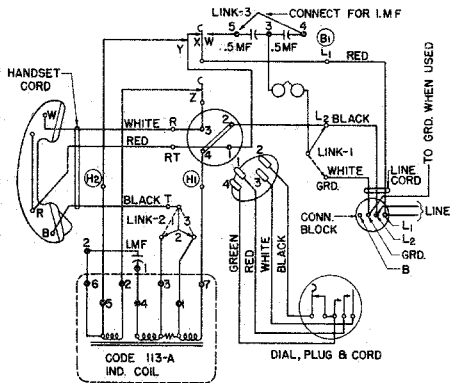

FIG. 2
- TO CHANGE FROM "METALLIC" TO "DIVIDED RINGERS" WHEN A GROUND LEAD IS CONNECTED TO $\frac{1}{2}$, MOVE LINK-1 FROM L₁(M) TO $\frac{1}{2}$ (D). FOR L₁B-(FIG.2) USE "D" POSITION ONLY.
II. WHEN CONDENSER IS OMITTED IN FIG.2, ADD STRAP BETWEEN CONDENSER JACKS 3&4 AND 1&2. MOVE SLIDE PLATE OF LINK 3 TO IMF POSITION